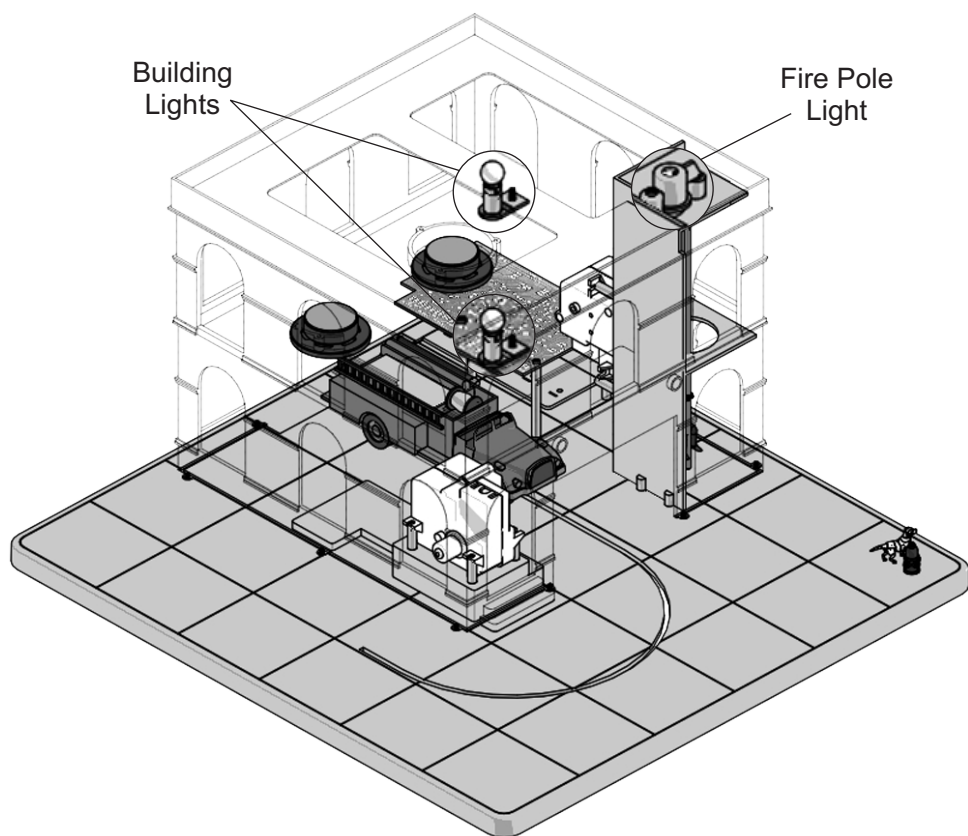

Fig 3. Locations of the interior bulbs of the Fire Station
7. Replace the lights bulbs as described below (See Fig. 3):